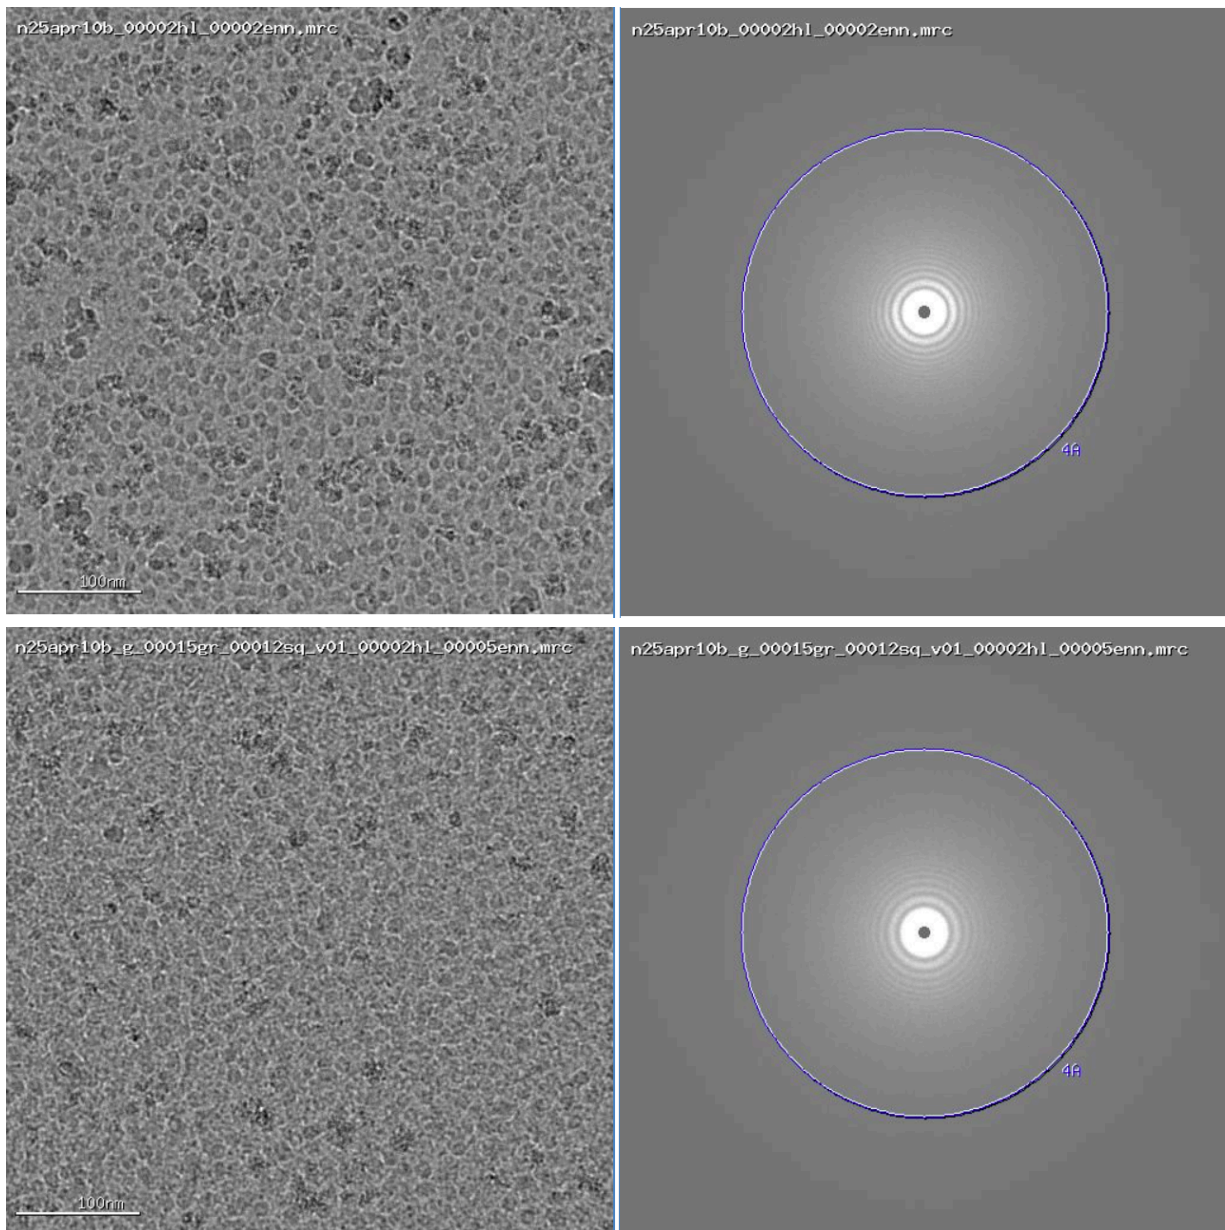

Fig 1. Micrographs containing Apoferritin particles suspended in vitreous ice accompanied by associated FFT - obtained with the v1 of the react-cryocool unit.
- **Note** - Concentration of Apoferritin is too high to obtain meaningful results through data collection. Explanation: To withstand side loading force imparted on the EM grid by cryogen jet, the EM grids are pre-clipped. Blotting was conducted with a small circle of filter paper on pipette tip followed by a wait time for evaporation to successfully form the thin film. During evaporation, the concentration increased as can be seen in Fig 1. Utilizing this GUP3 proposal, we also plan on testing the pipette and blotting technique